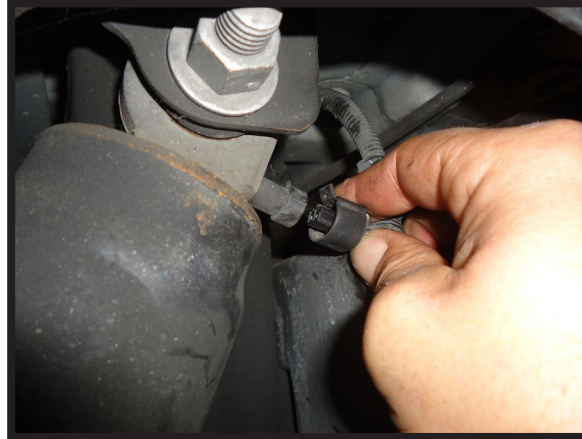

FIGURE 48
5. LOCATE AND REMOVE THE ELECTRICAL CONNECTORS FROM THE TOP OF THE AIR SHOCKS. (FIGURE 48)